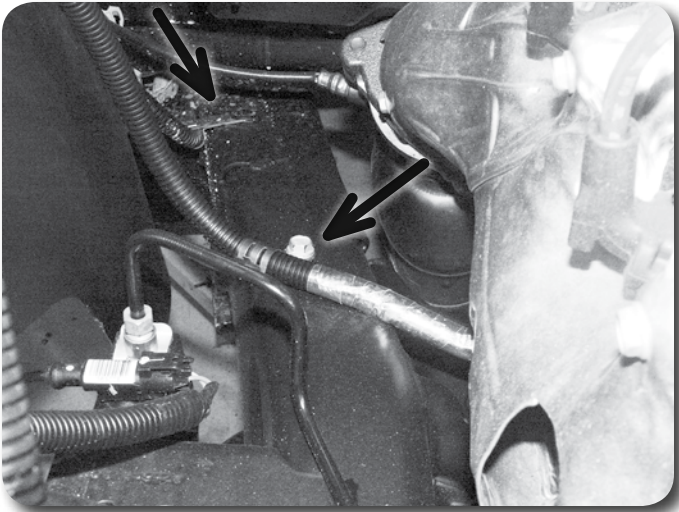

Figure 11
16. Disconnect the starter power wire and the O2 sensor wire from the top of the passenger's side frame rail near the rear of the wheel well opening **Figure 11**. These will be reattached after the body is lifted.